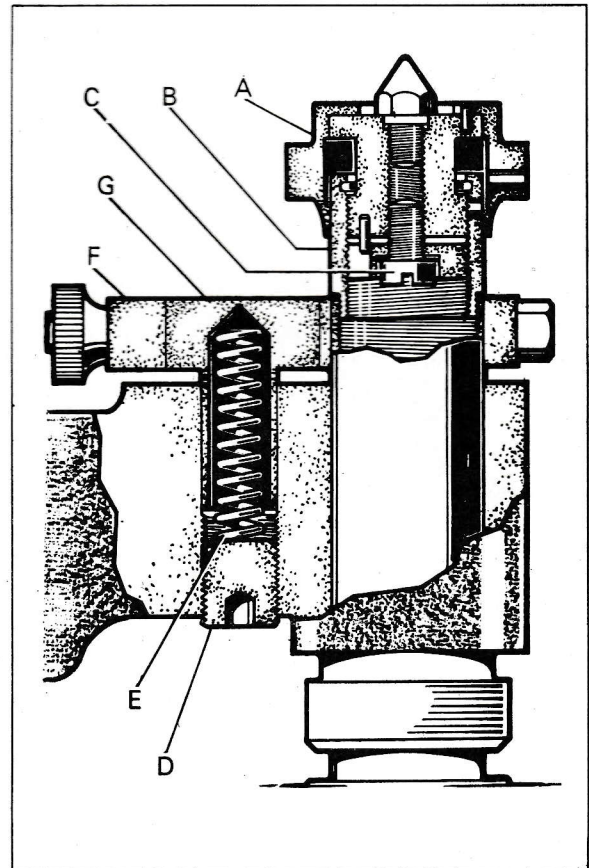

FIG. 11
Remove the setting bar. Unscrew the end cap from the spindle quill and screw in the feed assembly (B) Fig. 11 without the feed ring (A) which locates on a key pin in the top of the feed screw. Replace the spindle in the spindle sleeve and assemble the yoke (F) spring (E) and spring box (G), as shown. Tighten the yoke to prevent the spindle quill revolving, fit the feed ring (A) to the feed screw, pass the tommy bar provided through the hole in the feed ring and into the hole in the feed nut and lock the feed assembly to the spindle quill.